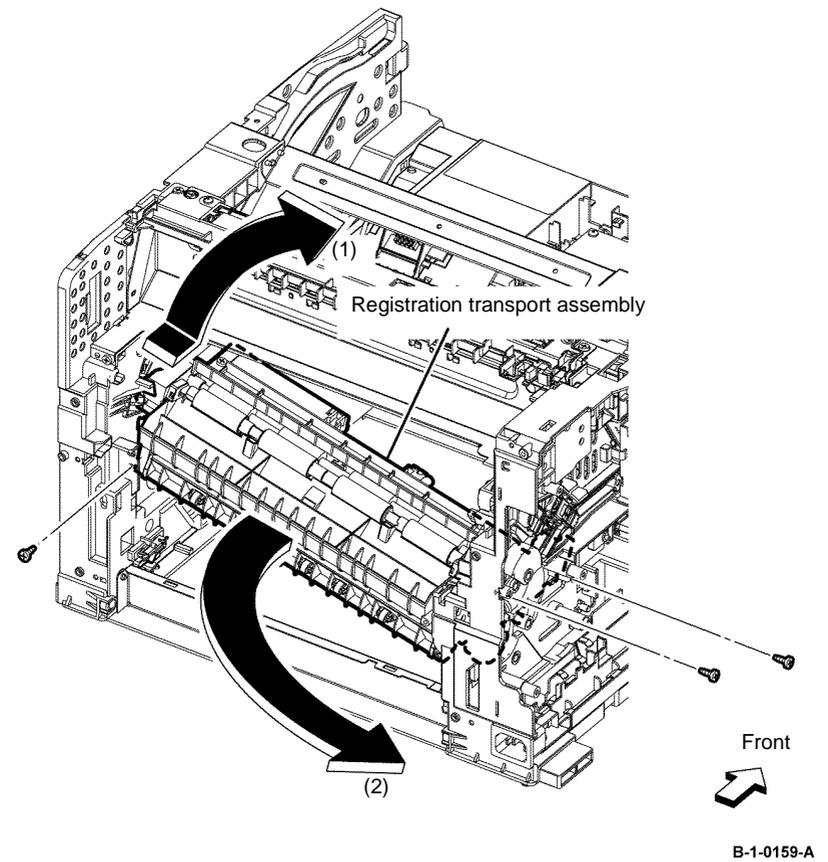

Figure 6 Registration transport assembly removal
26. Remove three screws (silver, tapping, 8mm), then remove the registration transport assembly from the printer, Figure 6.